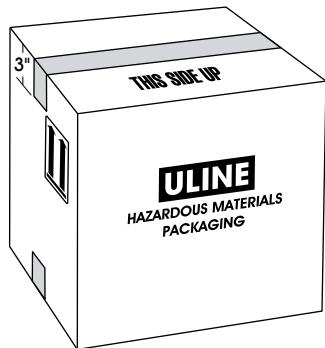

Figure 5
6. Seal top of carton down the center seam with one strip of 2" wide (2.6 mil) polypropylene tape (Uline Model # S-14564). The tape must extend 3" over each end of the carton. (See Figure 5)